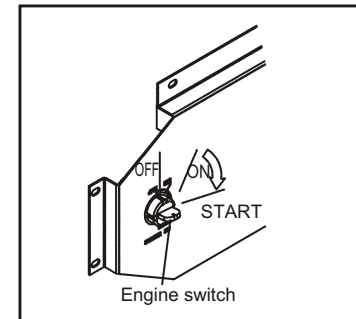

Fig.10 Starting Position
4.4 Turn the engine switch to the START until the engine has started, Do not engage the starter for more than 10 seconds. See Fig 10.